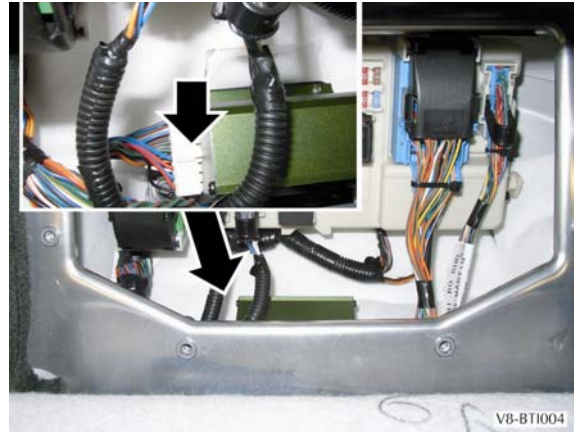

Figure 4
25. If a green switcher box (see Figure 4) is not installed, go to step 32.